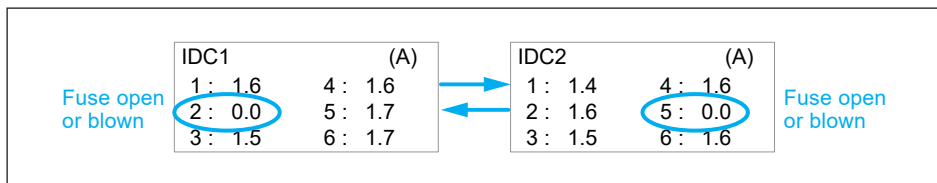

Figure 5-12: String monitor
1. Check "Power meter/string monitoring" page on the LCD display, to determine if any string current measurement is zero, which will most probably indicate a blown fuse. (**Figure 5-12**)